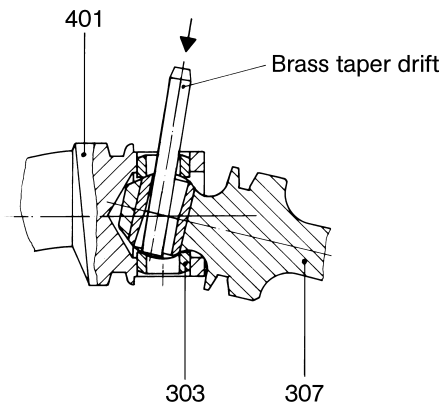

Figure 4: Dismounting the bushes for coupling rod pin.
- Eject coupling rod pin (301).
- By means of a brass ejector, drive out the two bushes for coupling rod pin (303) by one half. For these purposes, incline joint head (307) (please refer to Figure 4 below).